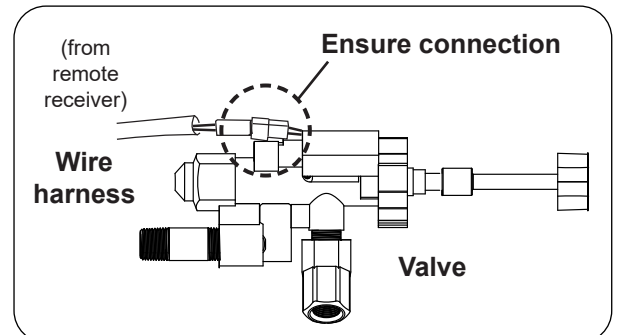

Fig. 9-3 Ensure harness connection
5. Ensure the remote receiver wire harness is properly connected to the valve as shown in Fig. 9-3.